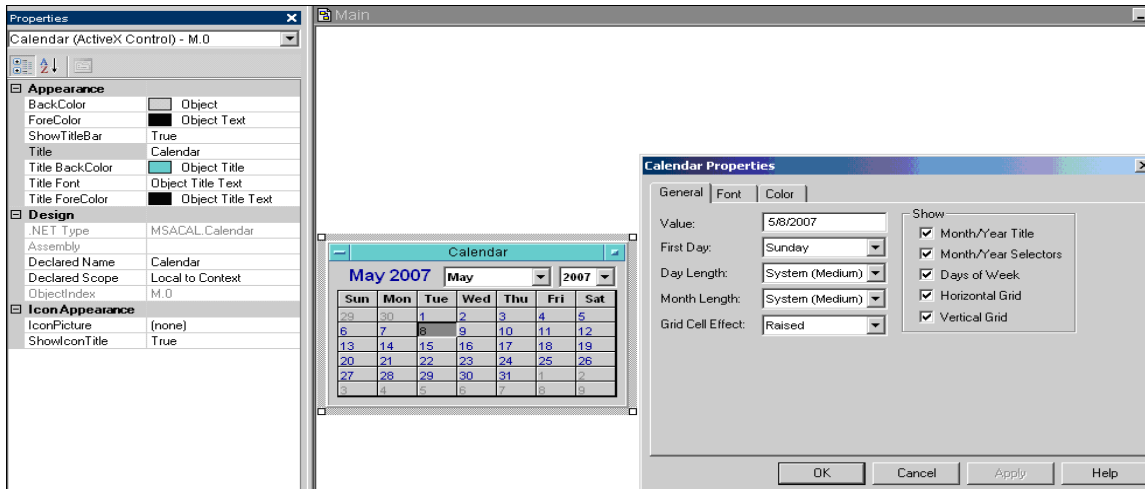

Figure 2-7 The Two Properties windows for Calendar
- 3 Right-click on Calendar and select the Properties window; then open its Control Properties window. Note those properties that you can access with the Properties window compared with those you can access via the Control (Calendar) Properties window. See Figure 2-7.